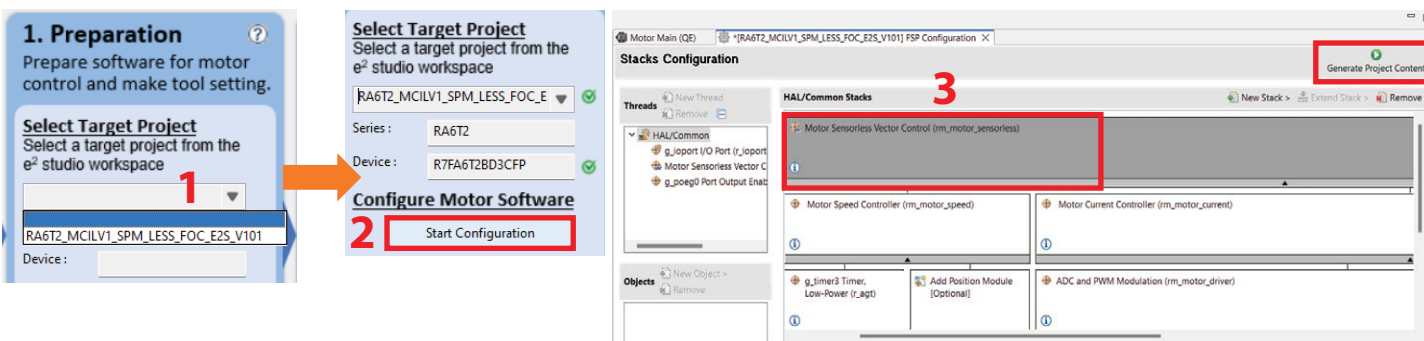

Figure 13: QE Motor initial settings
3. Click on the **Start Configuration** button shown in figure 13
6. Click on **Generate Project Content** (figure 13)